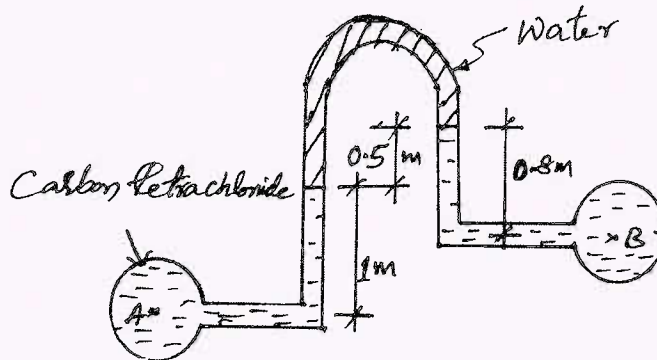

Fig.Q.2(c)
- c. Using an inverted U-Tube manometer, find the intensity of pressure at B for the given condition shown in Fig.Q.2(c). Carbon tetrachloride of relative density 1.6 is flowing through the pipe A and B. Water is used as manometer fluid. The pressure at A is 294.33 kN/m2. (05 Marks)